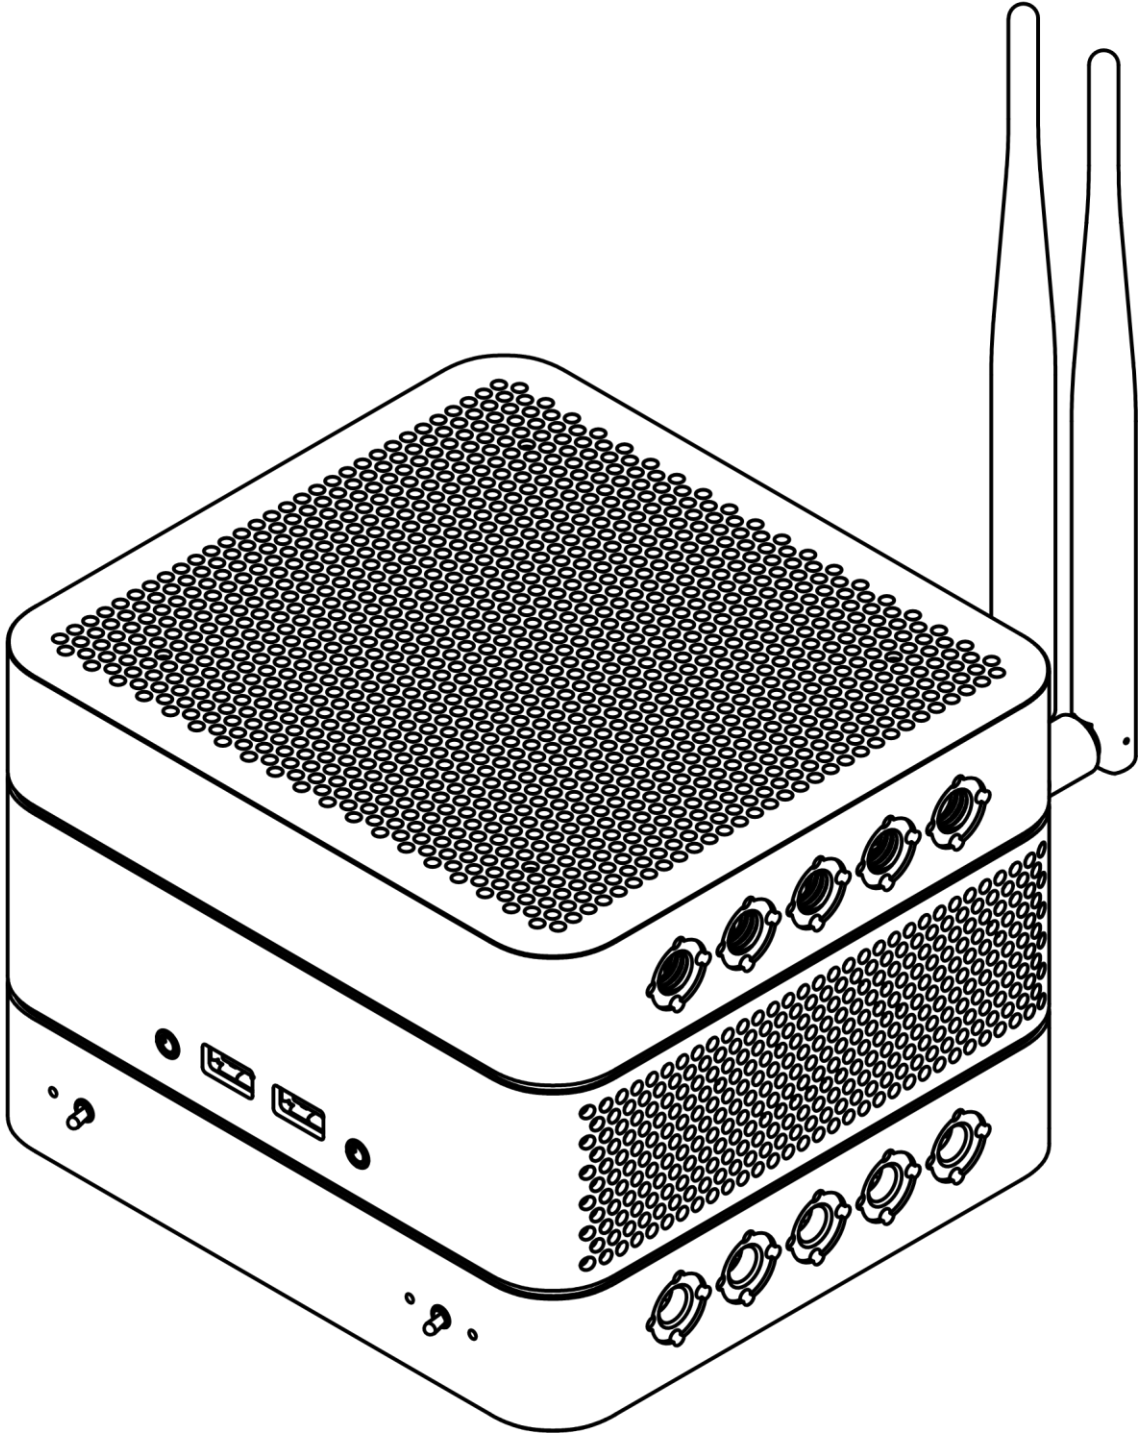

Figure 18. Reference Platform Chassis
- Figure 18. Reference Platform Chassis